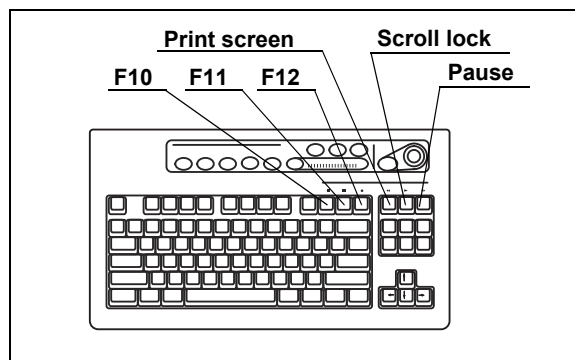
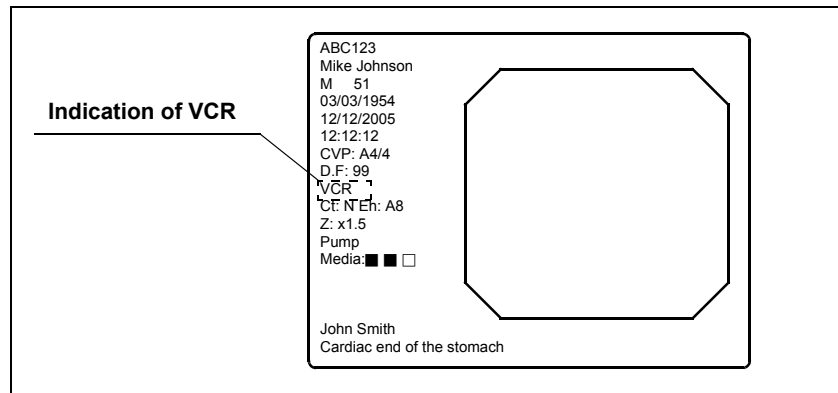

Figure 5.78
Figure 5.79
2. Perform the VCR operation of recording or playback using the keys on the keyboard (see Figure 5.78). "VCR" appears on the monitor during VCR recording (see Figure 5.79).